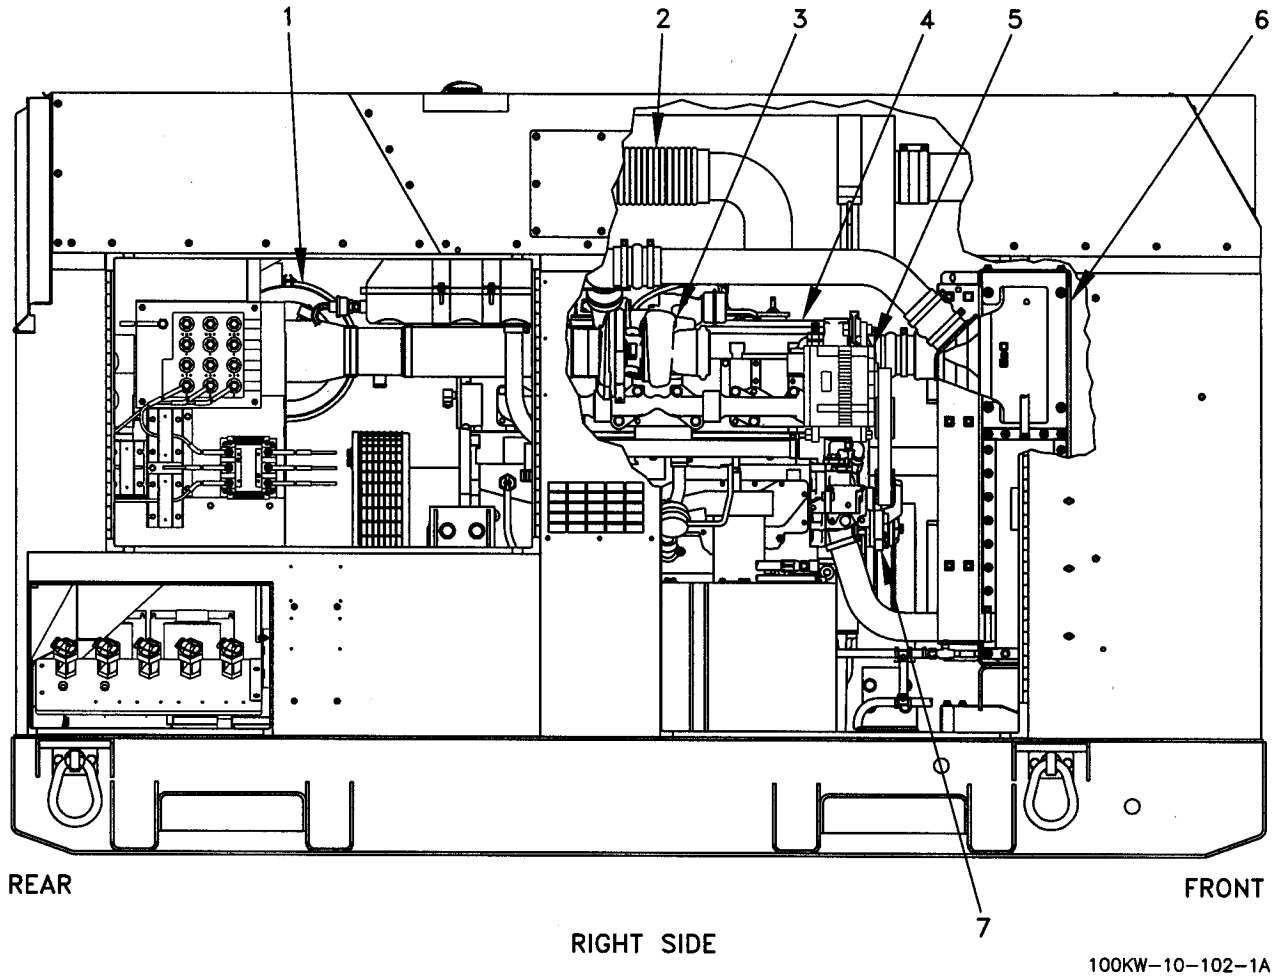

Figure 1. 100 kW Tactical Quiet Generator Location of Components (Sheet 1 of 6)
The engine starter motor (figure 1, sheet 2, item 8) is located on the right rear side of the engine. The electric starter engages the flywheel mechanically to start the diesel engine.